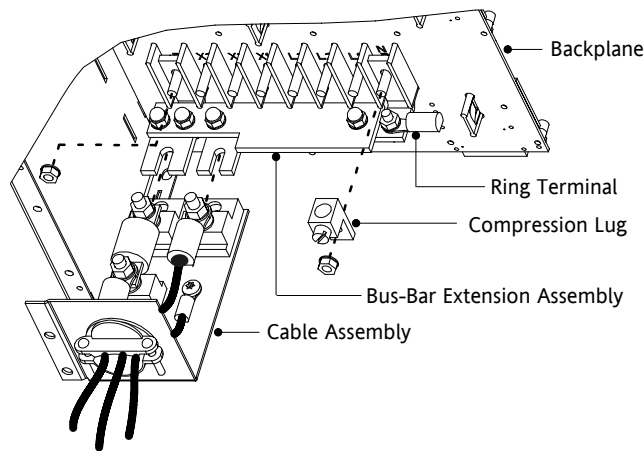

Figure 44. Bus-Bar Extension Installation
6. Remove the nuts holding the +DC and the -DC bus bars to the backplane as shown in Figure 44. Remove the ring terminal and the compression lug from the -DC bolt.
7. Position the bus-bar extension assembly onto the +DC and -DC bolts as shown in Figure 44. Replace the compression lug onto the -DC bolt of the bus-bar extension assembly. Secure the assembly by replacing the two nuts removed in Step 6.
10. Loosen the three large nuts on the end of the cable assembly (see Figure 44).